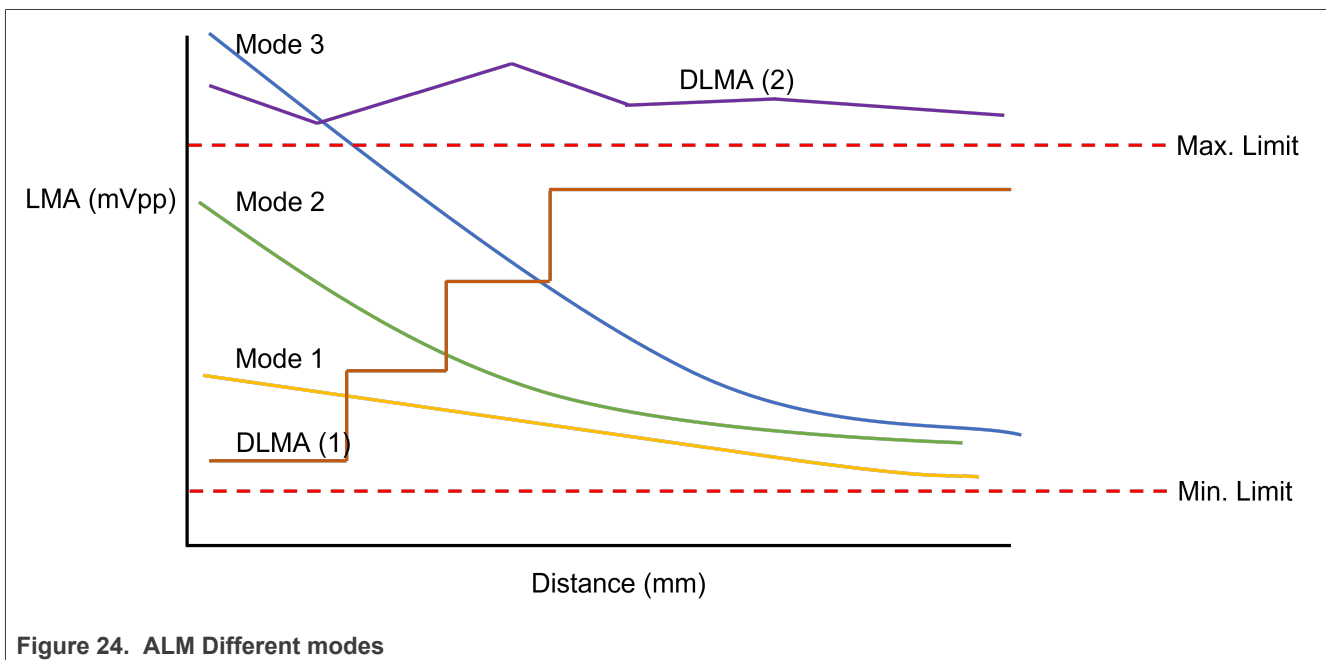

Figure 24. ALM Different modes
This is typically due to the high level of load modulation Amplitude. By Default, The PN7160 uses the **Dynamic load modulation Amplitude** mode, which is optimized for the PN7160 Development Kit (**DLMA (1)** curve). This feature ensures that for the longer distance between the PN7160 device and the reader, the LMA amplitude gets higher (See Figure 24).